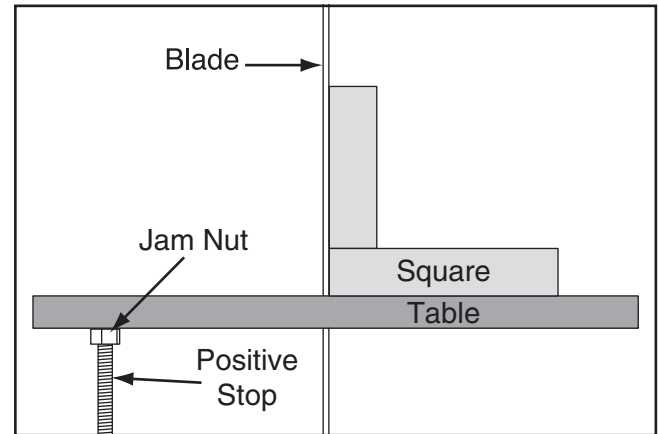

Figure 35. Using a square to adjust the table perpendicular to the side of the blade.
5. Completely raise the upper blade guide assembly, then place the machinist's square flat on the table and against the side of the blade, as illustrated in **Figure 35**.